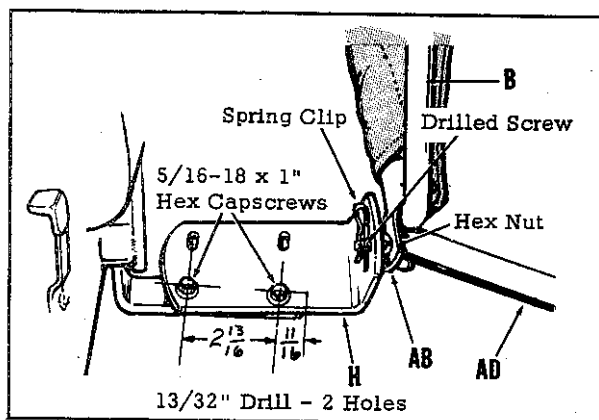

Figure 5
8. Attach the front end of Right Hand Bottom Brace (AD) and Left Hand Bottom Brace (AE) to the lower ends of Side Brace (B) and Hood Frame (AB) as shown in Figure 5. For proper assembly sequence, insert the drilled screw through the hole in Side Brace (B), then add Bottom Brace (AD) or (AE), and then insert drilled screw through hole in end of Hood Frame (AB). Secure with hex nut.
11. Attach the Foot Brackets (H) to the foot rests on each side of tractor, using 5/16-18 x 1 hex capscrews flatwashers, lockwashers, and nuts. Refer to Fig. 5.
13. The drilled screws in the lower end of side brace assemblies are passed through the hole in the foot brackets and are secured in place with spring clips provided. Refer to Figure 5.